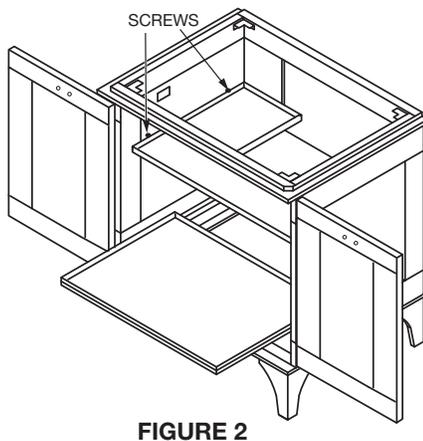

FIGURE 2
- Open vanity doors. Remove the four screws holding the top shelf in place. Remove the top shelf. Gently pull out the bottom shelf until it stops. Press the locking lever underneath the metal slides on both the left and right sides of the shelf and lift shelf out of the vanity. **Figure 2**